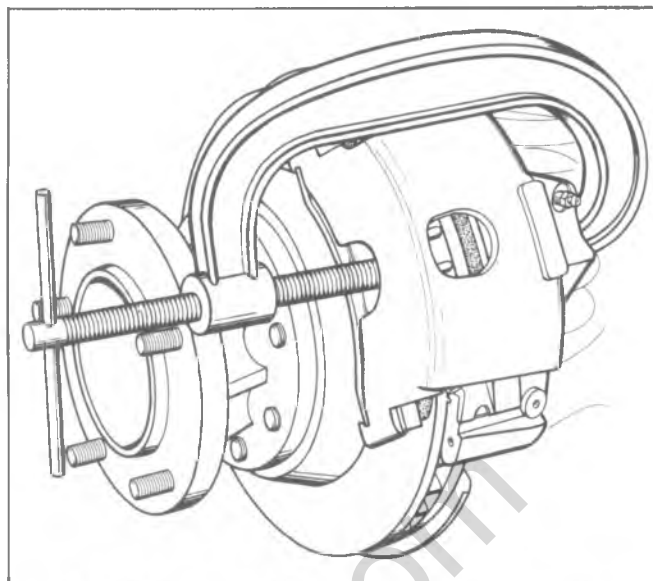

Fig. 5-33—Pushing Piston into Bore Using a "C" Clamp
3. Push the piston back into its bore. This can be accomplished by using a "C" clamp as shown in Figure 5-33.